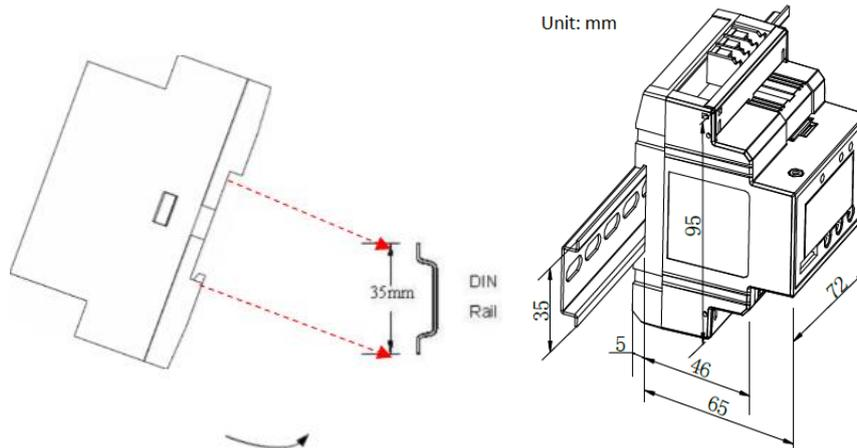

Figure 2-4 DIN-Rail Mounting
- Align the top of the mounting channel at the back of the PMC-1302-3 at an angle against the top of the DIN rail as shown in Figure 2-4 below.